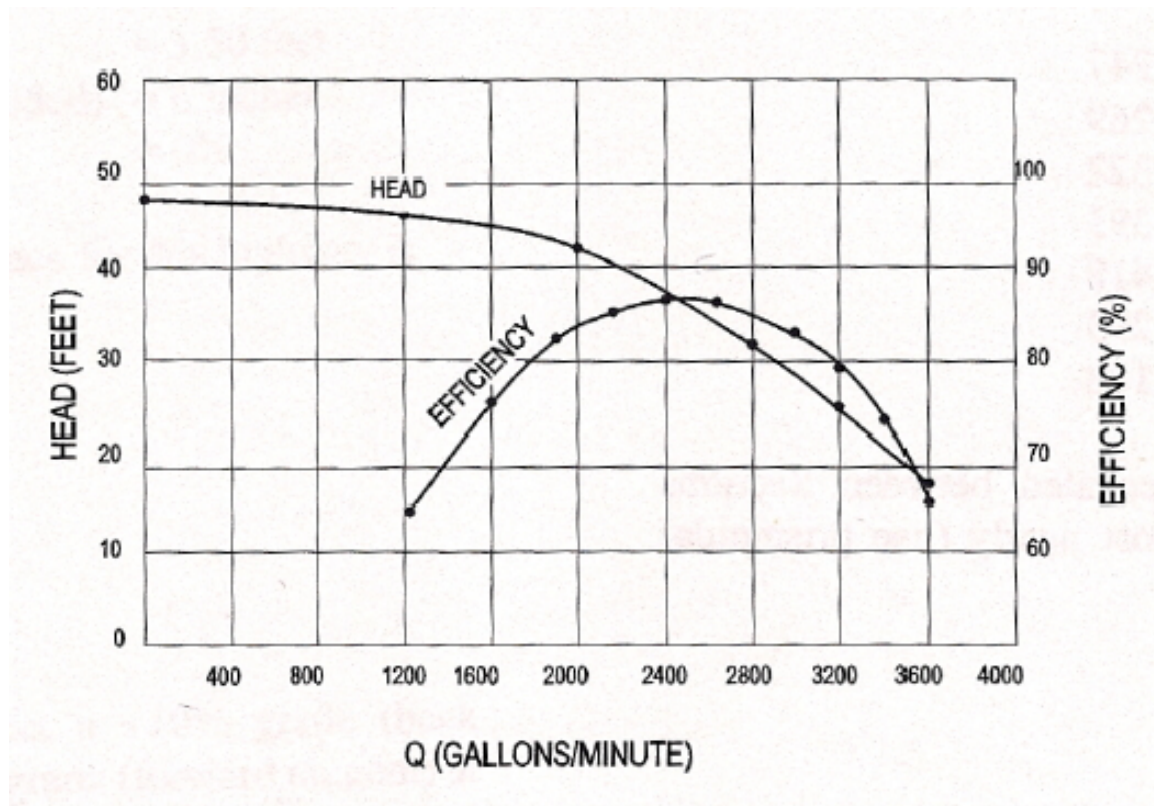

Figure 1: Lift station performance curve
1. A water supply system draws from a river at an elevation of 800-feet and delivers the water to a storage reservoir at elevation 820-feet. The supply pipeline is a 1000-foot long, 10-inch diameter, cast iron pipe. A single pump with the pump characteristic curve in Figure 1 is used to fill the reservoir.